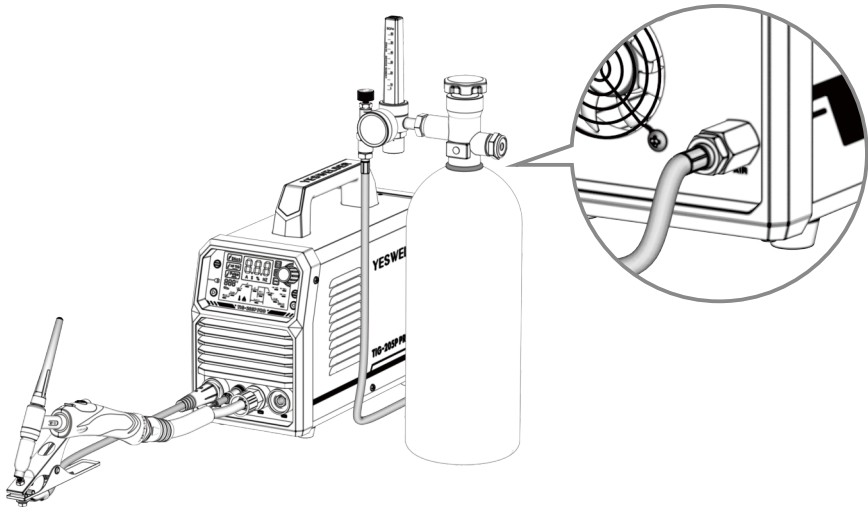

Fig. 9-1
- Connect the TIG torch correctly according to Fig. 9-1. Connect the connector of the TIG torch to the “” connector on the machine, and tighten it.